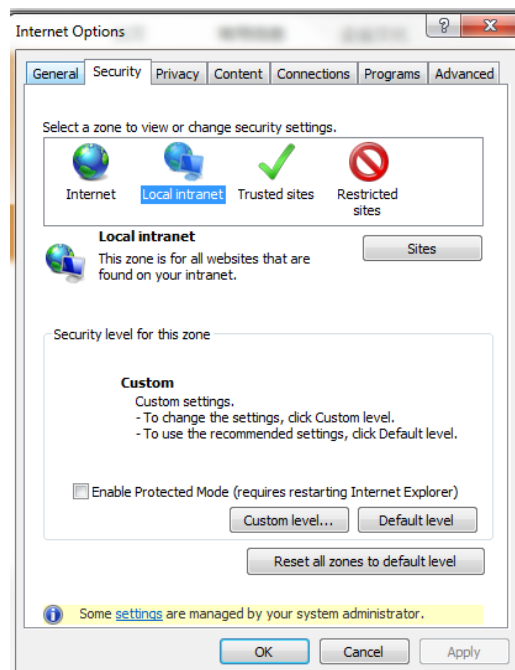
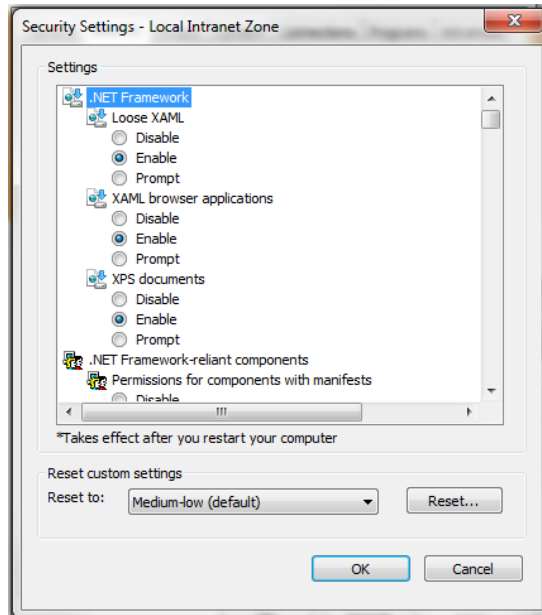

Figure 3-22 PDU screen Security Settings 1
Figure 3-23 Security Settings 2
Double-click the IE icon to run the software, click the Tools menu → Internet Options, then select the Security tab, the pop-up page shown in Figure 3-22.
Shown in Figure 3-22, select Local Intranet, and click Custom Level (C), the pop-up dialog box shown in Figure 3-23
Figure 3-23 shows the customizations selected "low (default)", and click on reset button to end the custom settings.